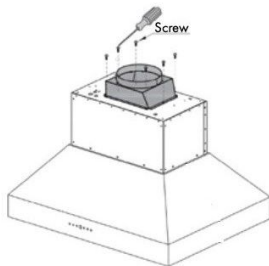

Figure 1.
2. Attach the air outlet adapter and ducting over the hood with the provided screws (ϕ 6" for 30", 10" for 36", 48" and 60"). *Figure 1*